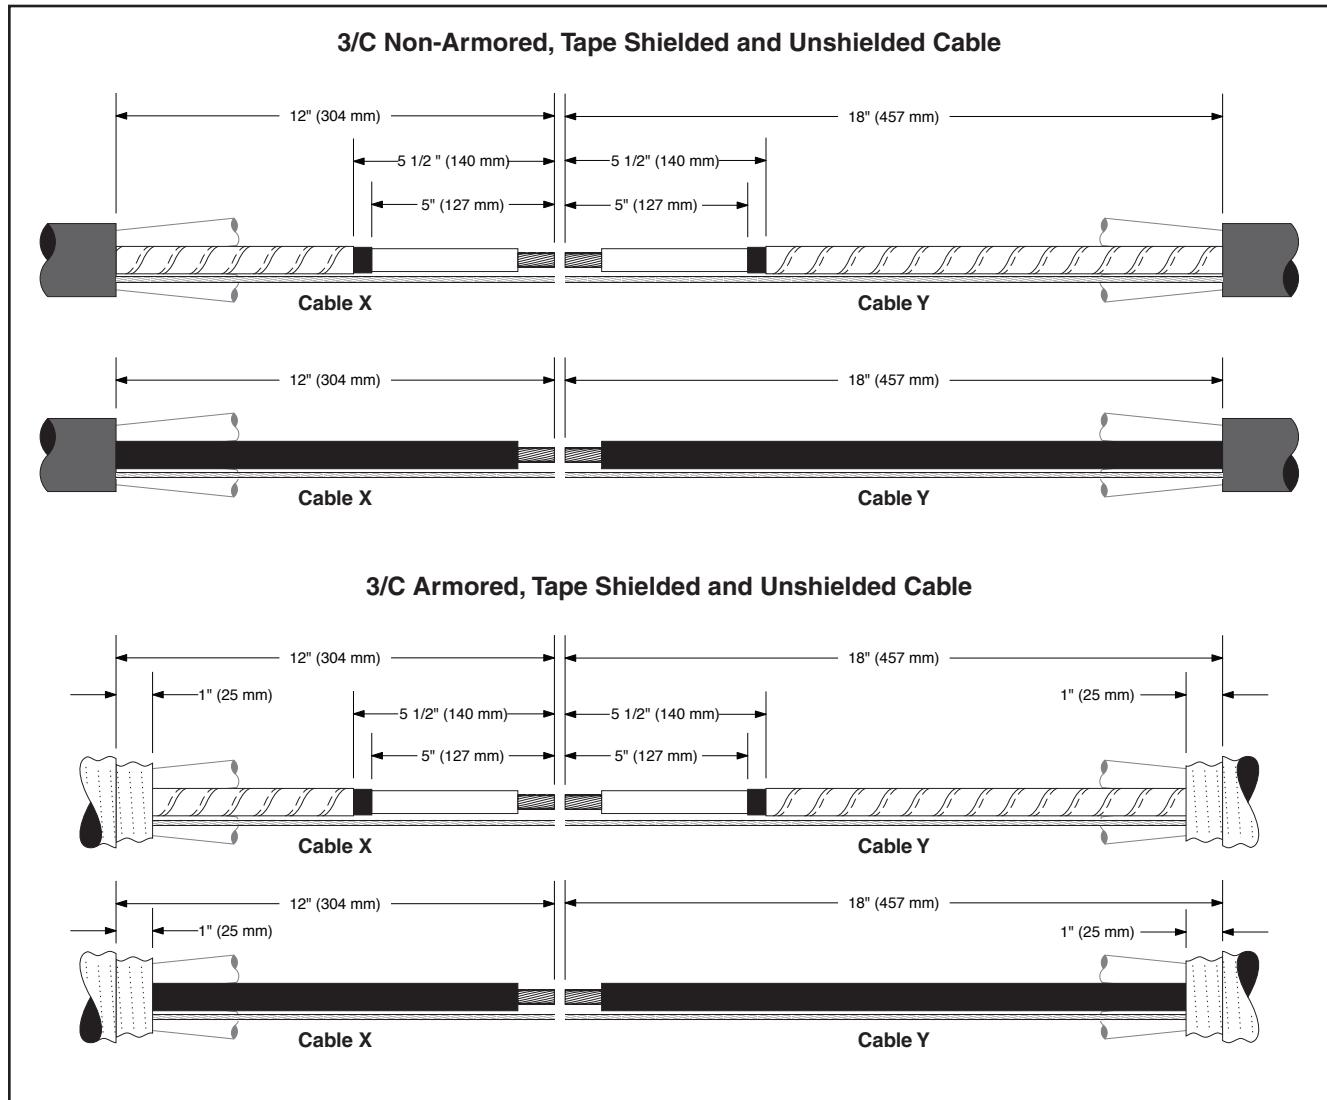

Figure 1
- a. Remove cable jacket/armor as shown in (*Figure 1*).